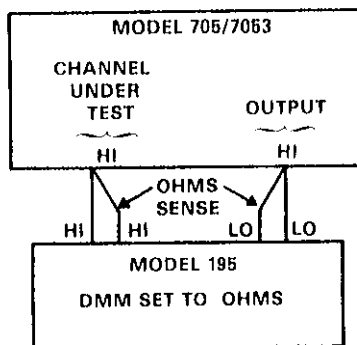

Figure 3. Model 7053 Open and Close Test Circuit
- A. This test verifies that the Model 7053 opens and closes the channels on the card on command from the scanner mainframe. Set up the test circuit shown in Figure 3.